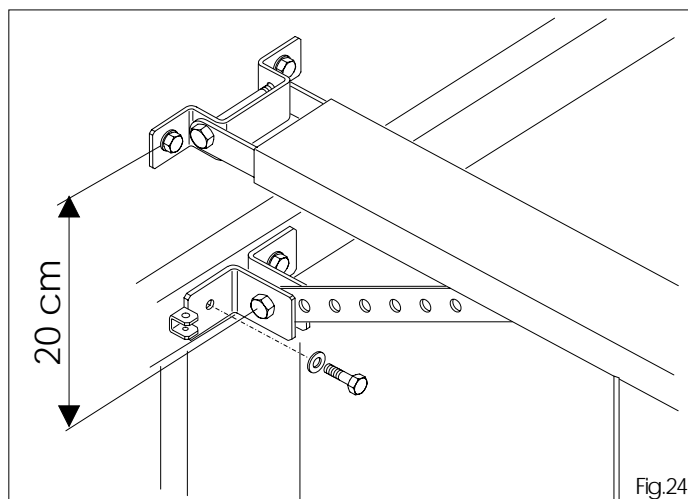

Fig.24
N.B.: The distance between drive bracket and sliding rail bracket must not exceed 20cm (max 30°) (fig.24).
6.22 Check the position, drill and secure with suitable screws (fig. 24).